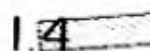

Fig. 70
3. The Needle should protrude into the fl. 4 mark. See Fig. 70.